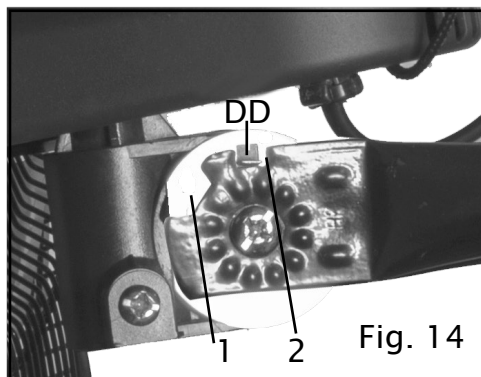
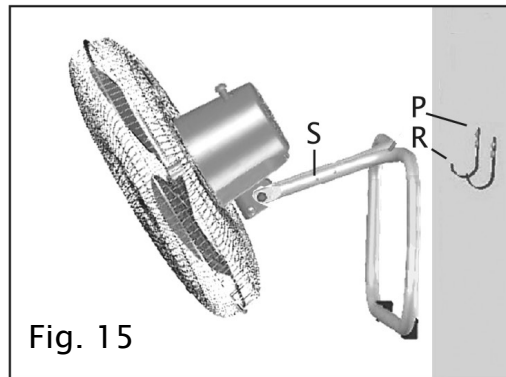

Fig. 14
Fig. 15
Make sure that the tab (DD) of the motor body (E) is housed in the seat (2) of the base (S) as shown in fig. 14, for a less direct downward flow of air. Fig. 15.